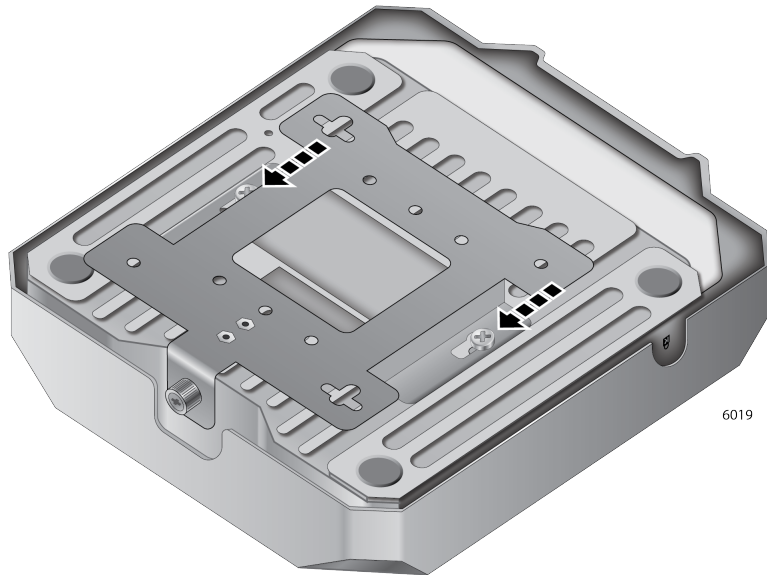

Figure 15. Attaching the Mounting Bracket on the Access Point
3. Make sure that the mounting bracket fits to the access point by sliding the bracket beneath the screws as shown in Figure 15.